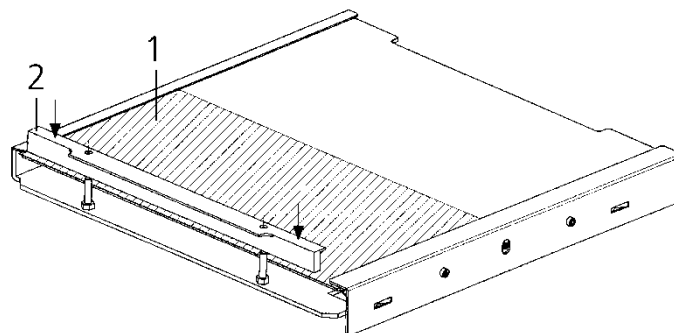

Fig. 7: Plate stage with foil. 1 = foil, 2 = down holder for foils.
Aluminium foils may not lay flat on the stage but can be held in place by means of the down holder for foils (2). It is employed according to fig. 7 and may be left in place if only foils are being used.